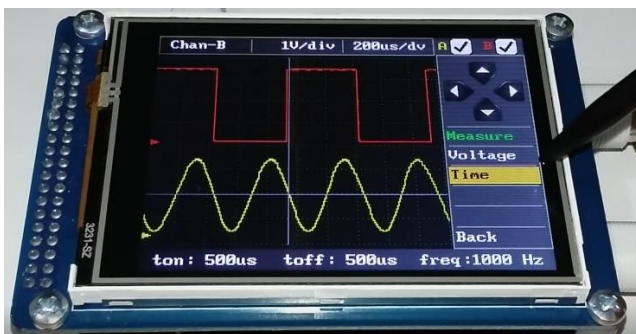
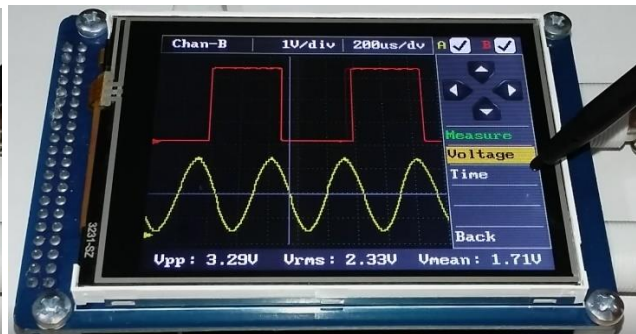

Figure 10a. Auto measurement for time. (CH-B)
Figure 10b. Auto measurement for frequency (CH-B)
- $T_{on}$ : The duration of the interval in which the signal is positive. If the level of the vertical trigger (15) is between the maximum and minimum values of the signal, it will be calculated as the time of the remaining portion above this level. If the trigger source (8) and the channel selection (1) belong to different channels, then the average of the maximum and minimum level is taken and the duration of the remaining time above this part is measured.
- $T_{off}$ : The inverse of  $t_{on}$  time. That is, the time remaining below vertical triggering (15) level. The measurement strategy in  $T_{on}$  time is also valid here.
The time values calculated for B channel (1) in Figure 10a are shown at (12). And also, voltage values are shown for B channel in Figure 10b.